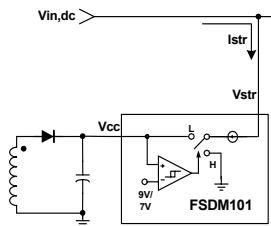

Figure 4. Internal Startup Circuit
**1. Startup :** At startup, the internal high voltage current source supplies the internal bias and charges the external Vcc capacitor as shown in Figure 4. In the case of the FSDM101, when Vcc reaches 9V the device starts switching and the internal high voltage current source is disabled. The device continues to switch provided that Vcc does not drop below 7V. After startup, the bias is supplied from the auxiliary transformer winding.